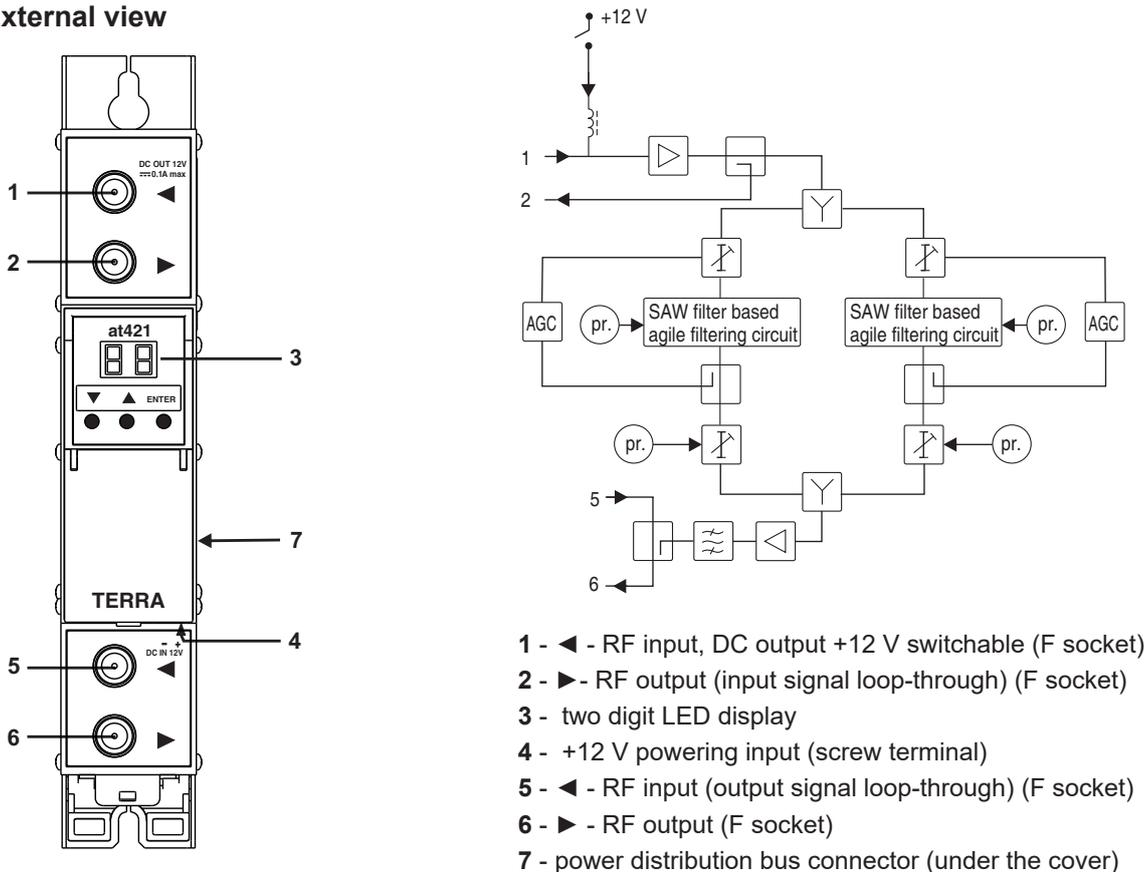
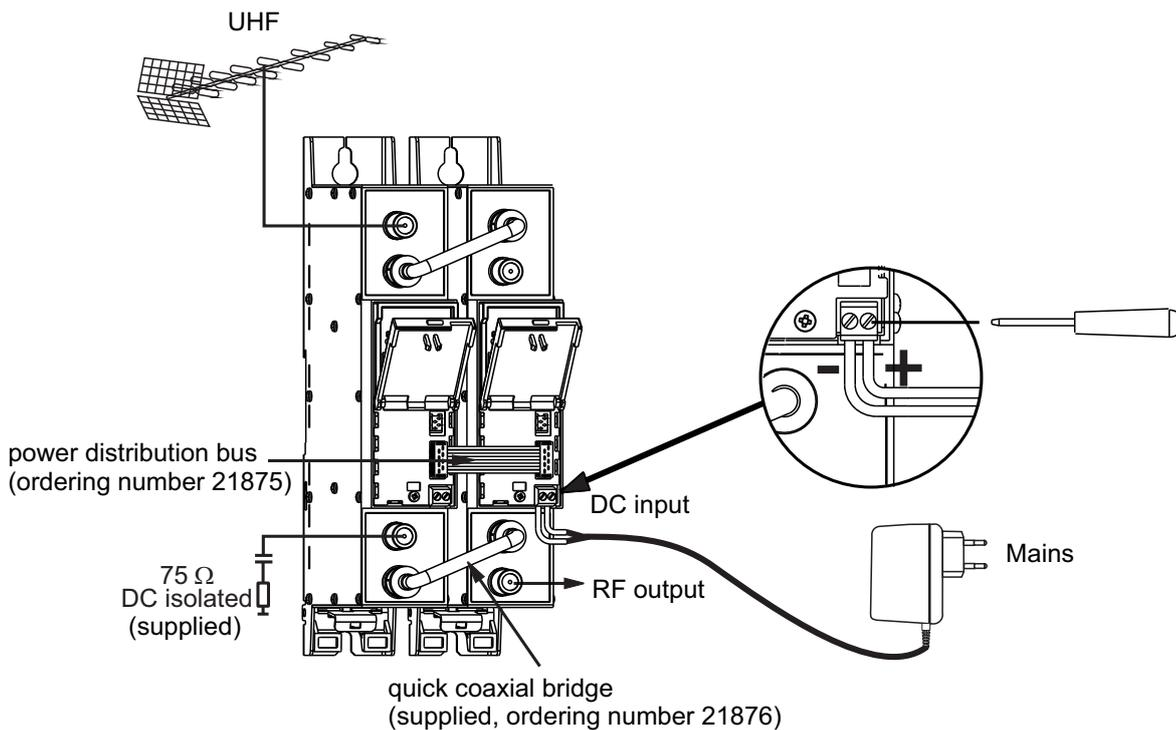

Figure 1. External view and structure diagram
Figure 3. Powering of amplifier
There are incorporated two fully independent TV amplifiers in one unit and consist of: AGC (Automatic Gain Control) circuit, SAW (Surface Acoustic Wave) based ultra high selective filter, IF (Intermediate Frequency) offset control circuit, adjustable output attenuator and controllable +12 V DC feeding circuit for preamplifier (Figure 1).
The amplifier can be used as stand-alone unit as well as modular system powered from single power supply (Figure 3).
DC power should be connected, after at421 mechanically placed into position (Figure 2, 4 and connected Figure 3).
If RF IN connector (pos. 5, Figure 1) is not used, connect the 75Ω isolated load supplied (Figure 3).